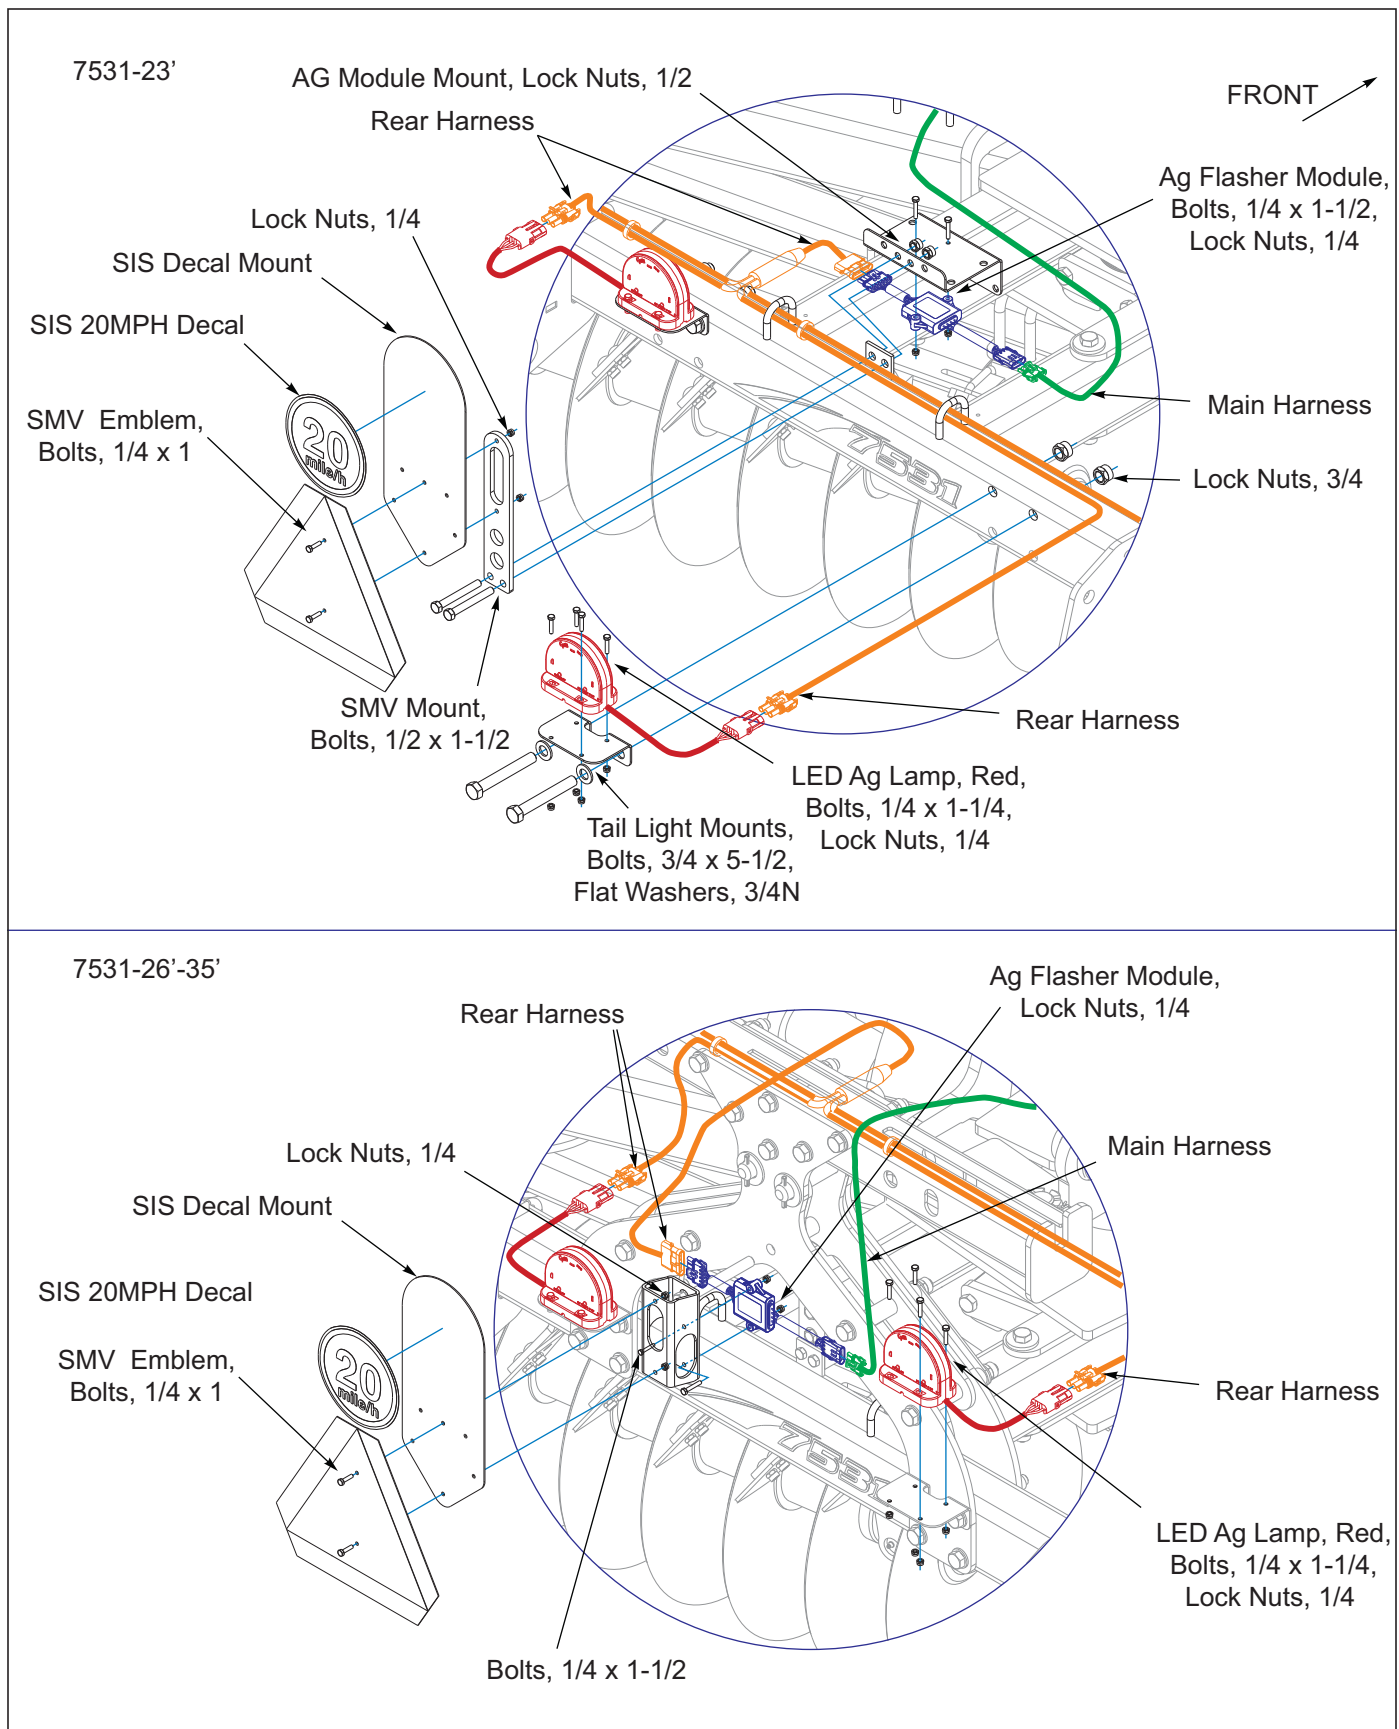

Figure 3-53: Electrical Assembly W/LED Lights (Page 2 of 5)
3. Model 7531-23' attach the ag module mount to front side of 2 hole plate and SMV mount to back side of 2 hole plate **See Figure 3-53**. Secure mounts with 1/2 x 1-1/2 bolts and 1/2 lock nuts.
4. Model 7531-23' attach the tail light mounts to rear tube of center frame **See Figure 3-53** using 3/4 x 5-1/2 bolts, 3/4N flat washers and 3/4 lock nuts.
Mounting location of ag flasher module, red led ag lamps and smv for Models 7531-23' and 7531-26'-35', See Figure 3-53.